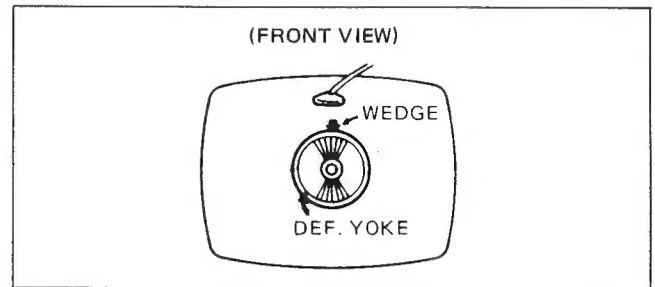

Fig. B-7
2. Adjust the convergence around the edges of the picture tube by tilting the yoke, up-down and left-right, and temporarily install one wedge at the top of the yoke. (Fig. B-7, 8, 9)